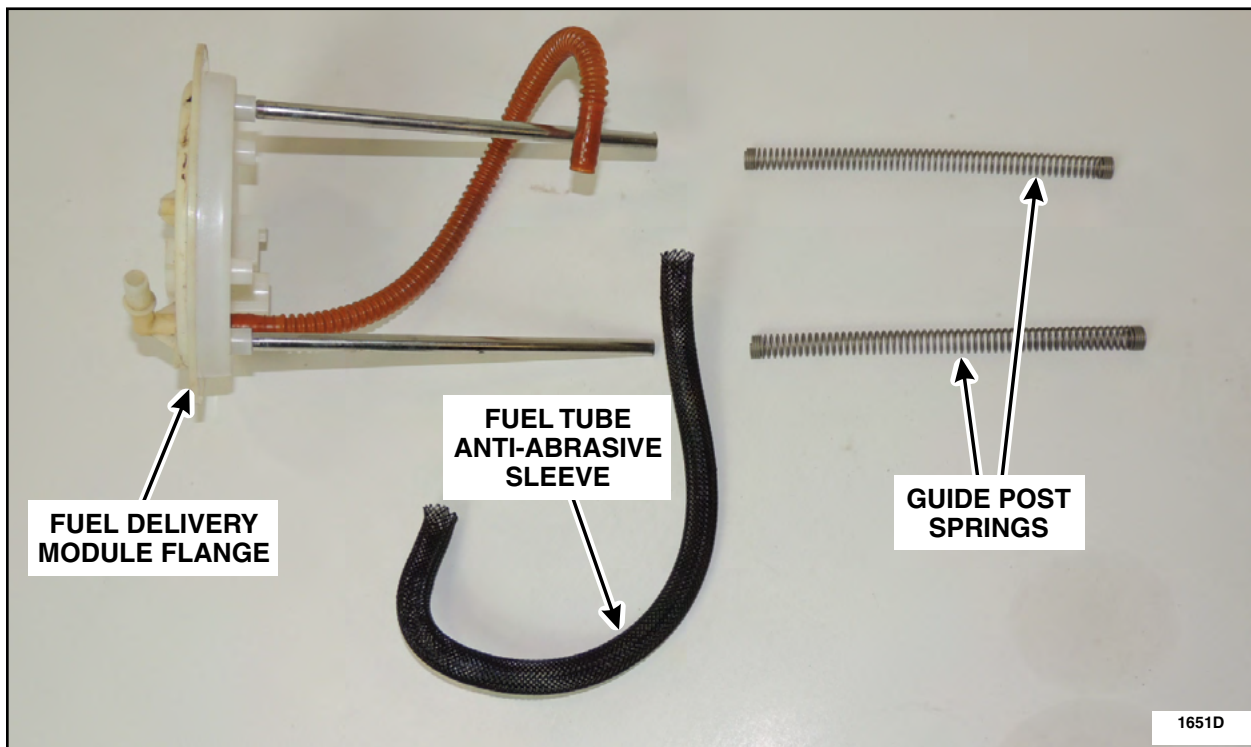

FIGURE 6
6. Remove the guide post springs and the fuel tube anti-abrasive sleeve from the old FDM flange. See Figure 6.